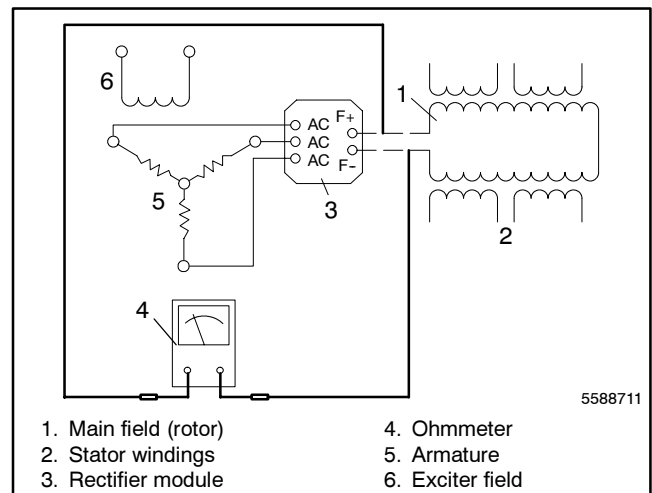

Figure 7-11 Ohmmeter Connections on Main Field
3. Check the main field resistance by connecting an ohmmeter across the main field F+ and F- leads. See Figure 7-11. The resistance reading for a cold main field should be approximately 2.5-4.5 ohms. A low reading indicates an internal short and a high reading indicates an open winding. Replace the main field if the ohmmeter readings indicate that the main field is inoperative.